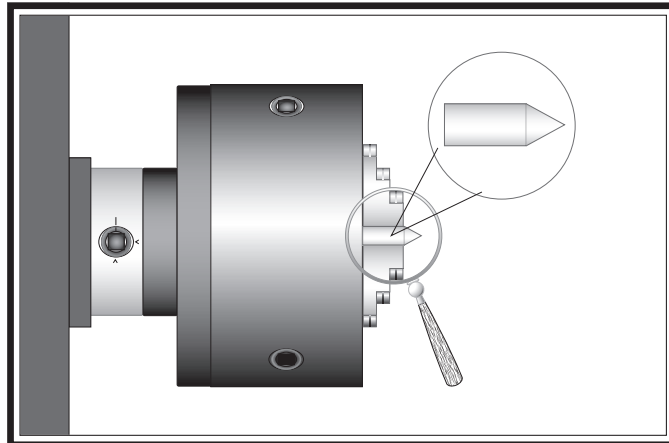

Figure 52. Turning a dead center.
3. Use the other piece of round stock to make a dead center, and turn it to a 60° point, as illustrated in **Figure 52**.